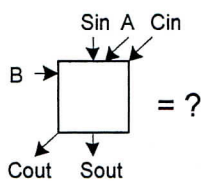
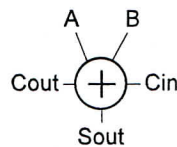

Fig. 11.2
Fig. 11.3
- (b) Sketch the circuit of Fig. 11.2 with the adder in Fig. 11.3 and necessary supporting combination logic. (2.5%)